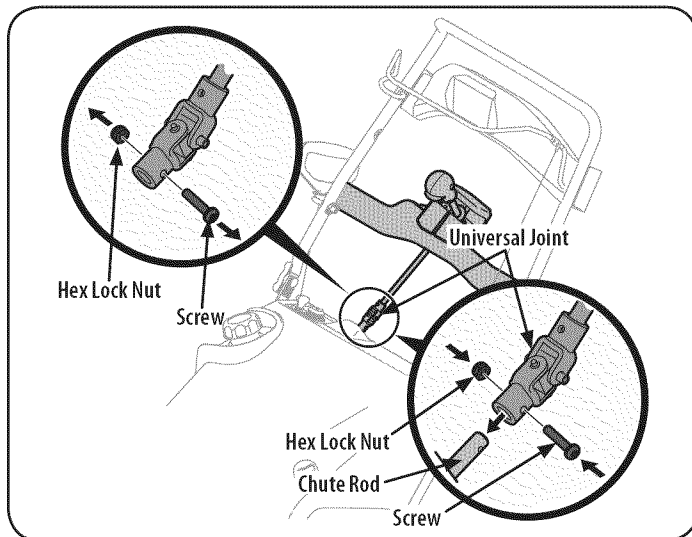

Figure 8
3. Remove the screw and hex lock nut from the universal joint. See Figure 8.
4. Install the universal joint on the end of the chute rod as shown in Figure 8.
5. Secure the universal joint with the hex nut and screw previously removed. See Figure 8.